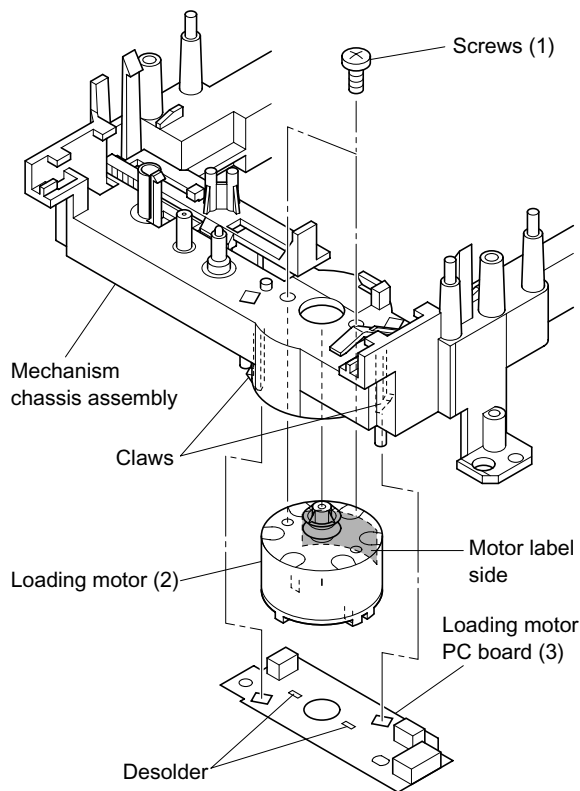

Fig. 2-1-15
- When replacing the loading motor, meet the polarity phase of the terminals. (Mount the motor with the label positioned as shown in Fig. 2-1-15.)